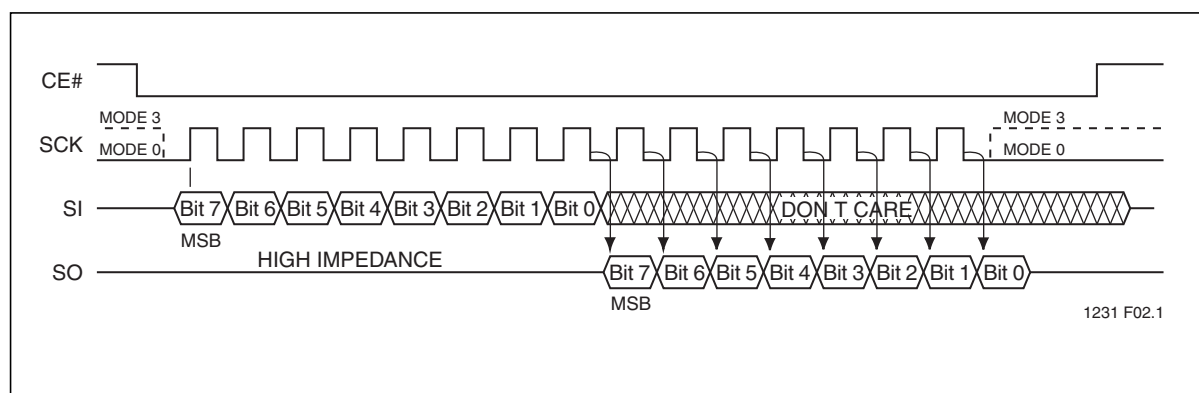

Figure 3: SPI Protocol
The SST25VF020 supports both Mode 0 (0,0) and Mode 3 (1,1) of SPI bus operations. The difference between the two modes, as shown in Figure 3, is the state of the SCK signal when the bus master is in Stand-by mode and no data is being transferred. The SCK signal is low for Mode 0 and SCK signal is high for Mode 3. For both modes, the Serial Data In (SI) is sampled at the rising edge of the SCK clock signal and the Serial Data Output (SO) is driven after the falling edge of the SCK clock signal.